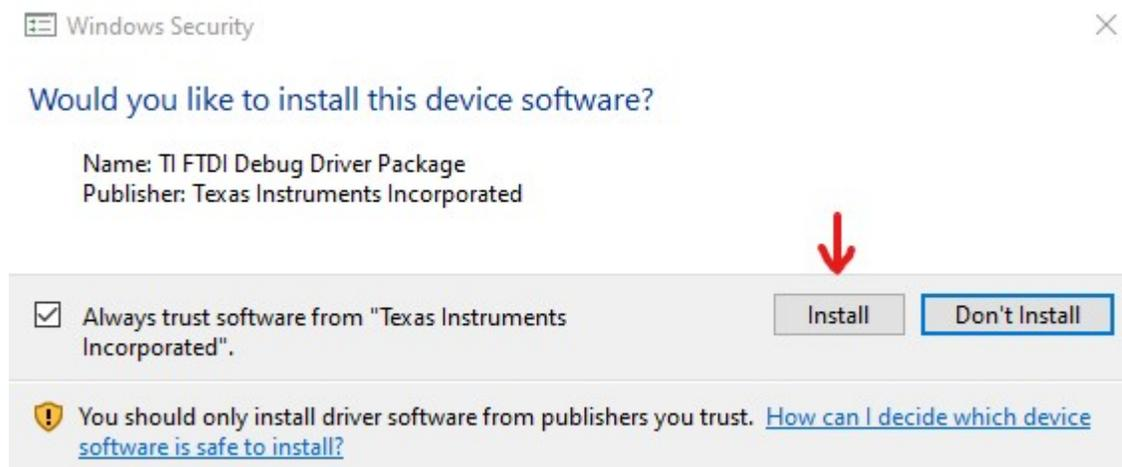

Figure 4-1. Installation pop up window
- During GUI application installation a pop up window will appear as shown in the Figure 4-1. Click on 'Install' to install the USB driver required for the DRV8434SEVM operation.